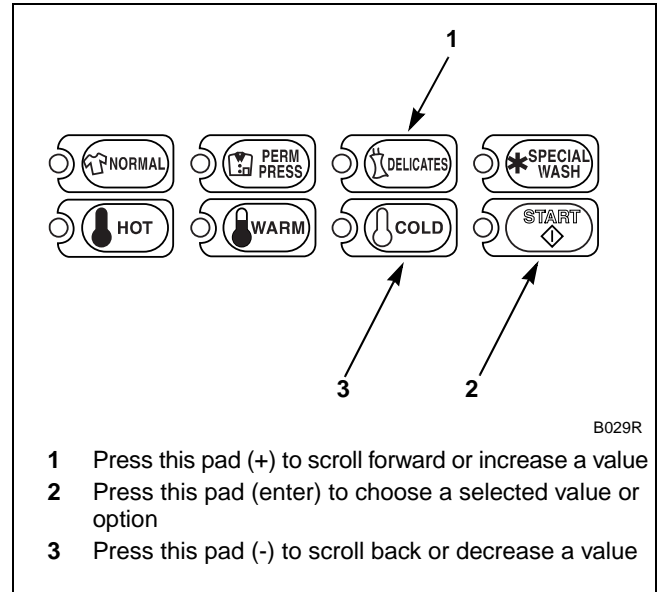

Figure 173
5. Press the DELICATES (+) or the COLD (-) keypad to increase or decrease the current number of minutes displayed in the VFD to the desired number of minutes. Refer to *Figure 173*.
**NOTE: The Special Wash Wash Fill/Tumble Time can be set from zero (0) to 15 minutes.**